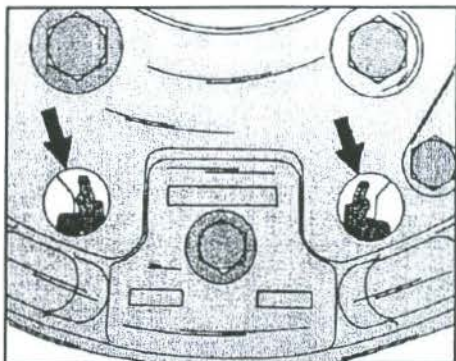

Fig. 7.6 – Checking the clearance between the brake shoe lining and the brake drum surface.
- Referring to Fig. 7.5, first adjust the front and then the rear brake shoe. To do this, insert a screwdriver between two of the teeth of the adjusting wheel. Turn the adjusting wheel (with R.H. thread) until the brake shoe is in contact with the drum surface. From this position turn the adjusting wheels back by 5 teeth. This will give the brake shoe linings a clearance of 0.3 – 0.4 mm. You can measure the gap with a feeler gauge as shown in Fig. 7.6, after removing the plug next to the handbrake cable entry. To check that the adjusting wheel is locked in position, move the wheel by one tooth up and down.